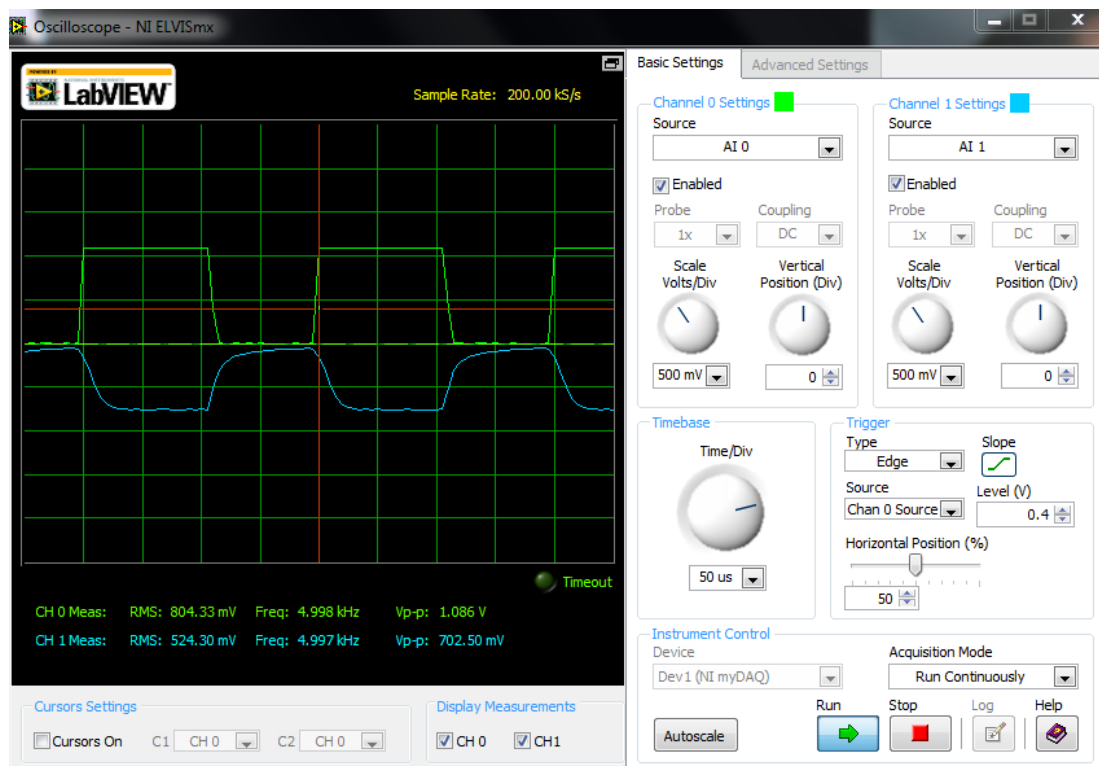

Figure 8: Transmitter and Receiver Signals
15. Press run on the function generator and the oscilloscope and your signals should look similar to Figure 8. If they do not then try adjusting the transmitter and receiver so they are pointing more directly at each other.